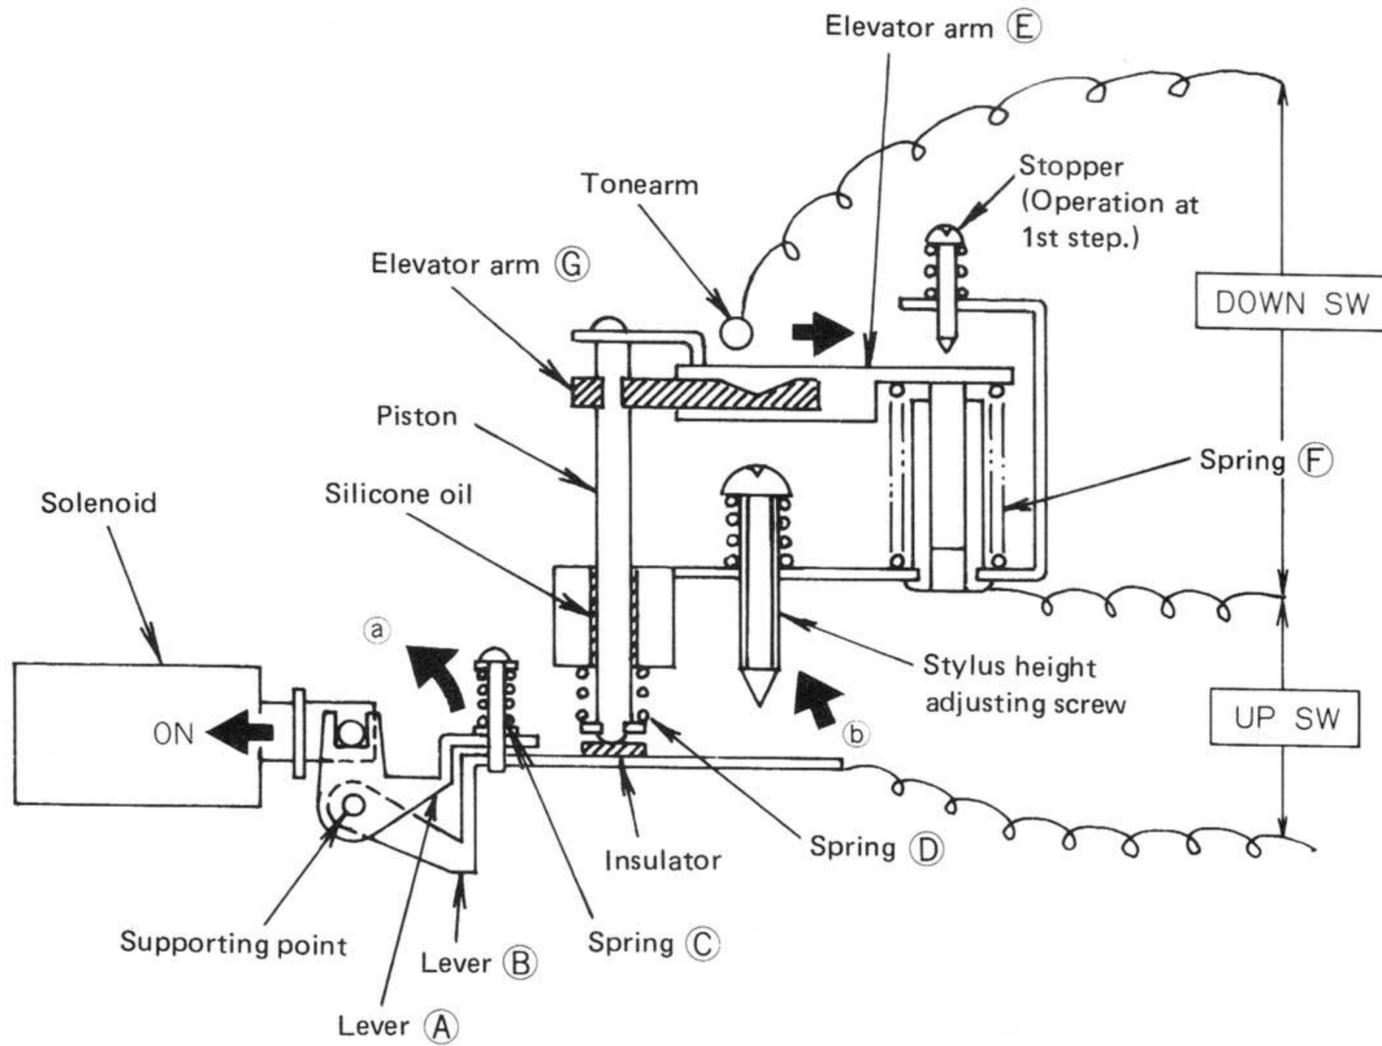

Fig. 3
4-(4) Operating Principle of Elevator (See Fig. 3)